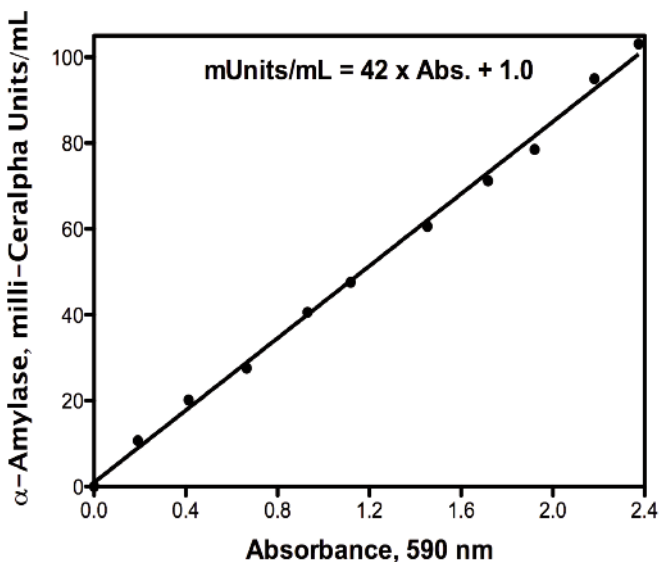

Figure 2. *Bacillus licheniformis* α -amylase standard curve on Amylzyme (Lot 40101).
7. Calculate the α -amylase activity using the *Bacillus licheniformis* α -amylase standard curve for Amylzyme (see Figure 2).
A standard curves relating the activity of *Bacillus licheniformis* α -amylase on Amylzyme Tablets (Lot 40101; absorbance 590 nm) at pH 7.0 and 40°C, to α -amylase activity on Ceralpha reagent (pH 7.0 and 40°C) is shown in Figure 2.